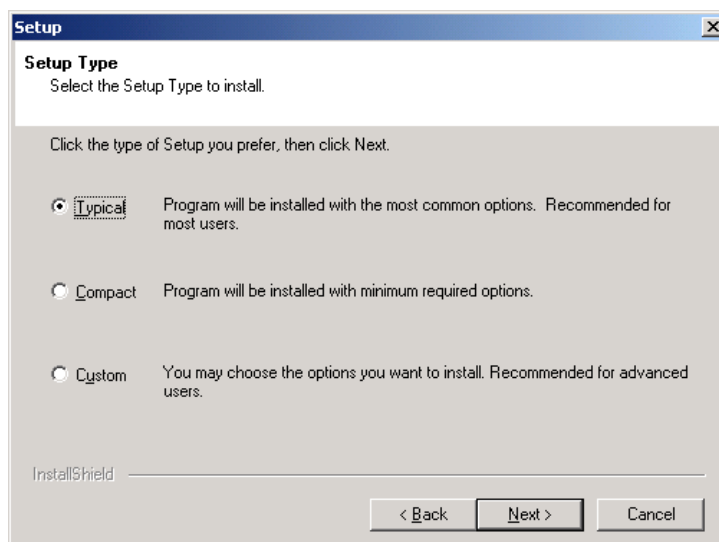

Figure 4 - Selecting the Type of Installation.
6. Select “Next” to choose the type of setup to perform (see Figure 4). “Typical” will install the most common components, while “Compact” will only install the absolute necessary components. To choose which components to install, choose “Custom”.